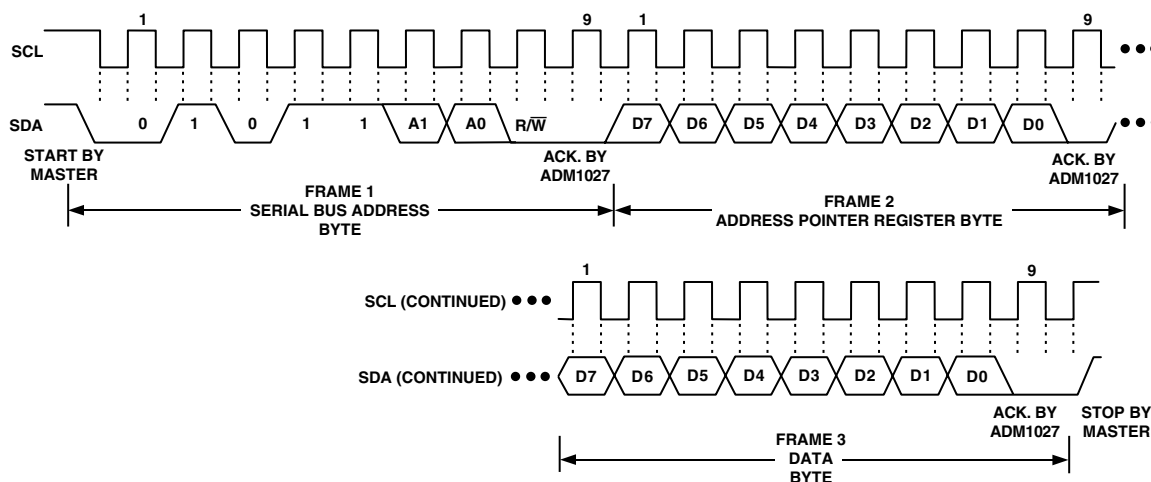

Figure 6. Writing a Register Address to the Address Pointer Register, Then Writing Data to the Selected Register
This is illustrated in Figure 6. The device address is sent over the bus followed by R/W being set to 0. This is followed by two data bytes. The first data byte is the address of the internal data
2. In Figures 6 to 8, the serial bus address is shown as the default value 01011(A1)(A0), where A1 and A0 are set by the address select mode function previously defined.